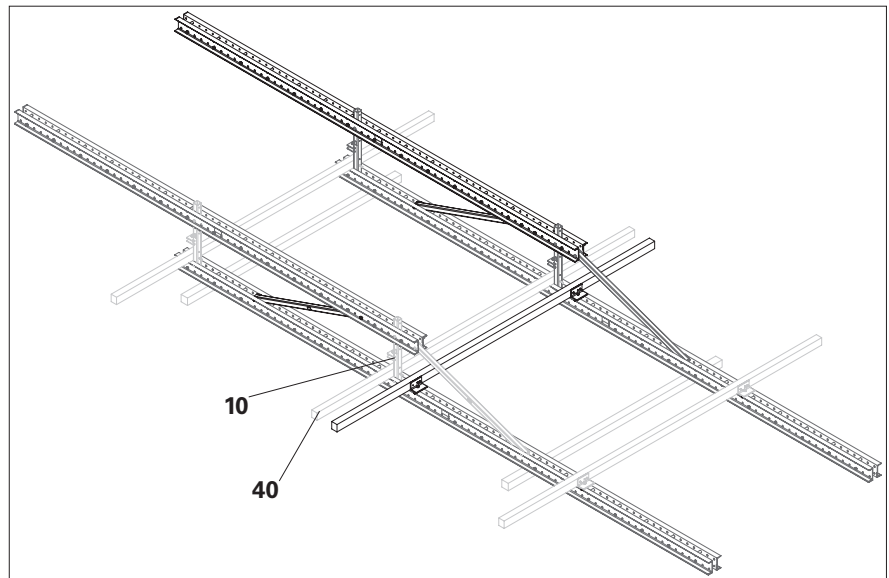

Fig. E1.03
2. Remove the platform beams (40) from the crossbars (10).
3. Remove the enclosure posts (1) from both console bracket units.
- (Fig. E1.03 + E1.04)